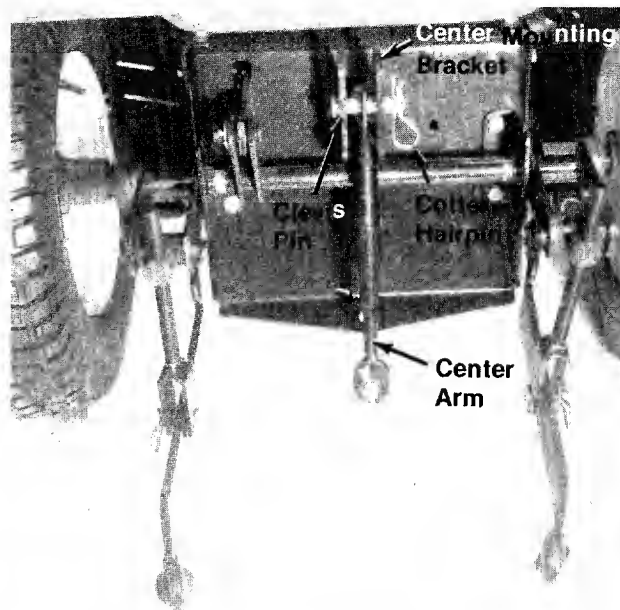

FIGURE 24
6. Screw the two halves of the center arm together and attach one end to any hole in the center mounting bracket with a clevis pin and a cotter hairpin. See figure 24.